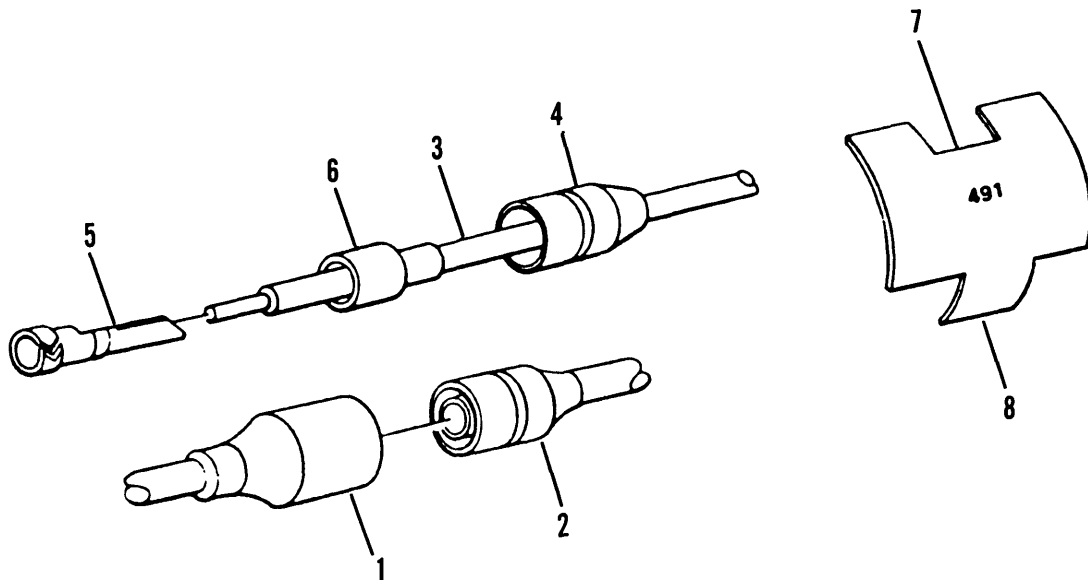

Figure 4-16. Female Connector Repair
- (1) Separate connector halves (1 and 2, fig. 4-16).
- (2) Slide shell (4) and sleeve (6) up wire lead (3) until clear of terminal (5).
- (3) Using diagonal cutting pliers, cut terminal (5) off wire lead (3). Be sure to leave enough lead for connection after repair.
- (4) Slide shell (4) and sleeve (6) off wire lead (3). Discard shell (4) and sleeve (6).
- (5) Using wire stripper, strip insulation from wire lead (3) 1/8-inch (3.2 mm) from end.
- (6) Slide new shell (4) and sleeve (6) on wire lead (3). Apply insulation compound to end of wire lead (3).
- (1) Open tab ends of marker band (7, fig. 4-16) and remove. Discard marker band (7).
- (2) Using etching tool, etch proper number on new marker band (7).
- (3) Place marker band (7) on wire lead (3). Using crimping tool, bend tab end (8) over wire (3).